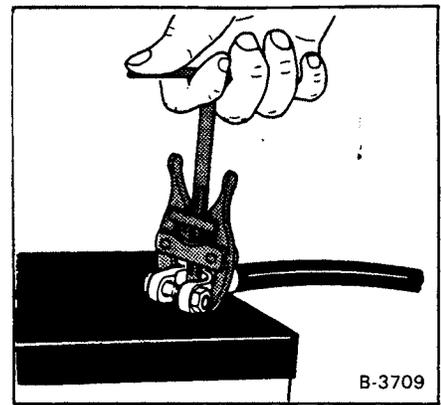

Fig. 1-26 Removing Cables
- (1) Remove the battery cables (Fig. 1-26). Remember the position of the positive and negative terminals so the cables can be connected correctly to the new battery.